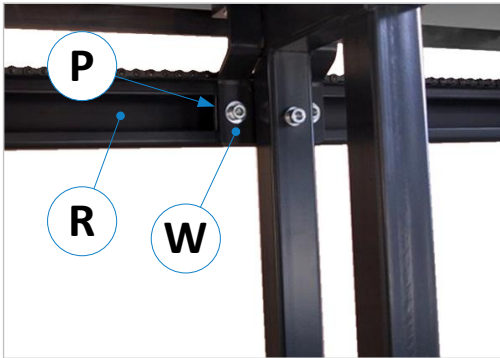
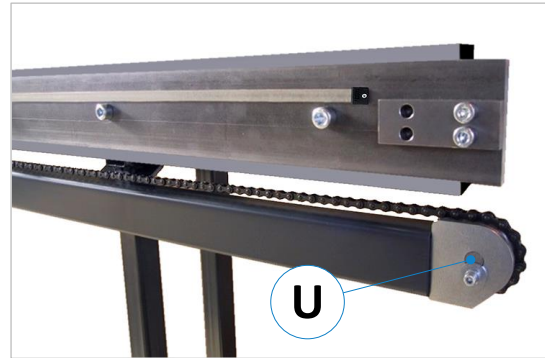

Figure 9: Fitting the chain guide tube
Figure 10: Chain deflection
- **Only EXAKT MES A:** The chain guide tubes (**R**) are simply pushed over the pre-mounted clamping plates (**P**) on the angle brackets (**W**) – see ⇒ Figure 9 - and then fixed in alignment using hexagon socket screws. The deflection (**U**) for the chain is mounted on the end pieces (see ⇒ Figure 10).